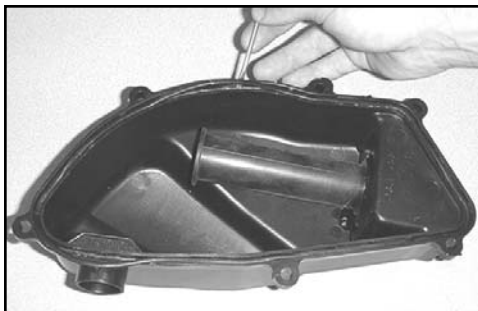

Fig. 3
3. Remove the o-ring from the air box base. (Fig. 3)